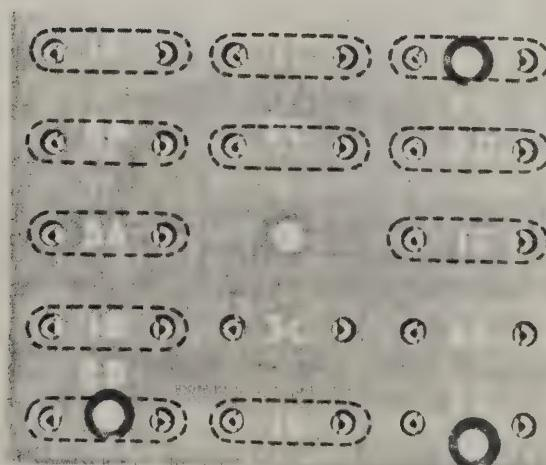
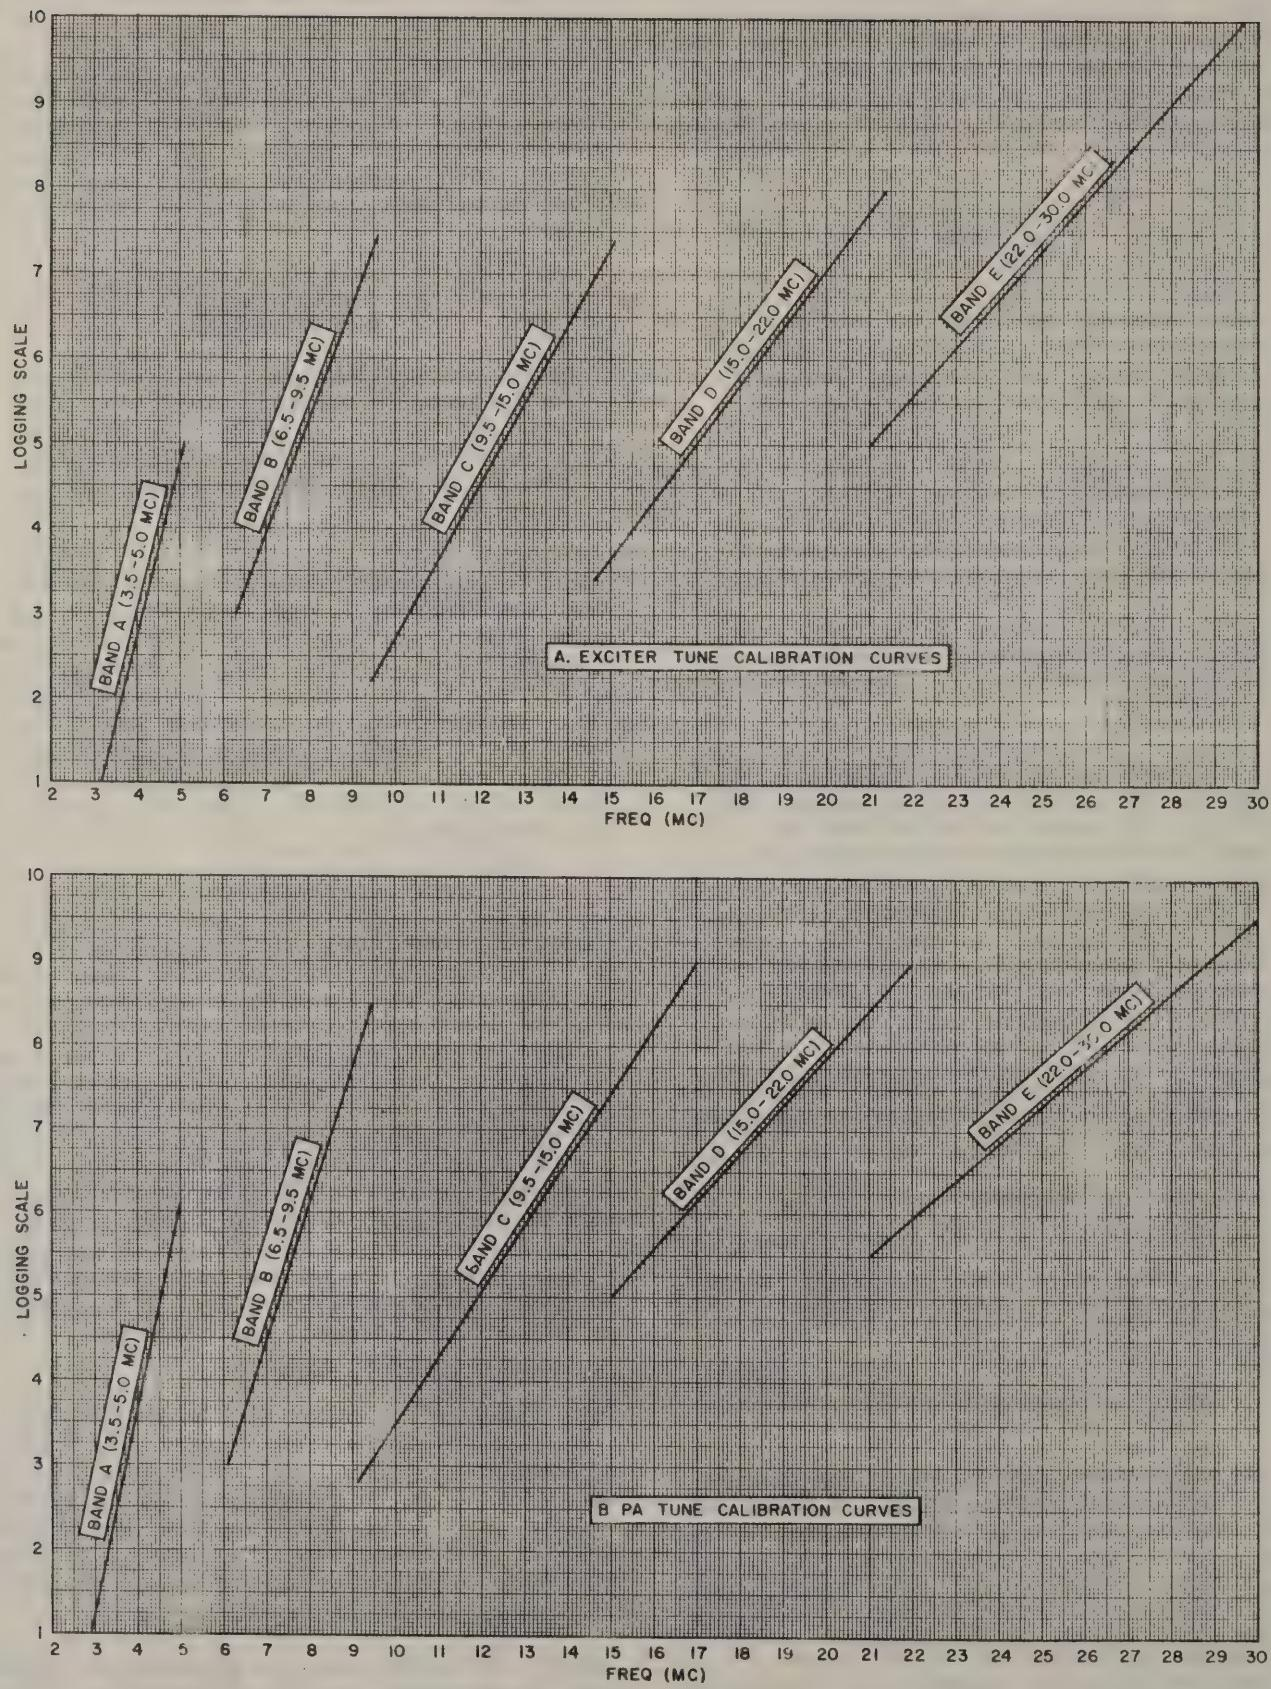

Figure 2-3. Crystal Socket Locations
Figure 2-2. Calibration Curves
The transmitter can be operated at other frequencies outside the specified amateur bands (MARS frequencies) or at other 10-meter frequencies by plugging the proper crystals into the mounting board. Figure 2-2 shows calibration curves, and figure 2-3 shows crystal socket locations. Select these crystals as follows.
c. Substitute or extra crystals should be plugged into the appropriate socket on the mounting board according to the best location in one of the five bands. By referring to the exciter tune calibration curves in figure 2-2, select the band letter corresponding to the desired operating frequency, and place the required crystal in a crystal socket bearing the same band letter. If additional 10-meter crystals are used, they should be plugged into the sockets marked E. Table 2-3 lists crystal socket designations, switch positions (BAND), crystal frequencies furnished, and frequency range limitations. For extra coverage crystals available, see section 6, Parts List.